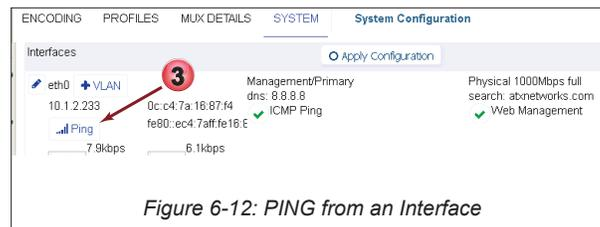

Figure 6-12: PING from an Interface
3. Click the **Ping** button on any Ethernet port to initiate the Ping function on that interface, Figure 6-12.